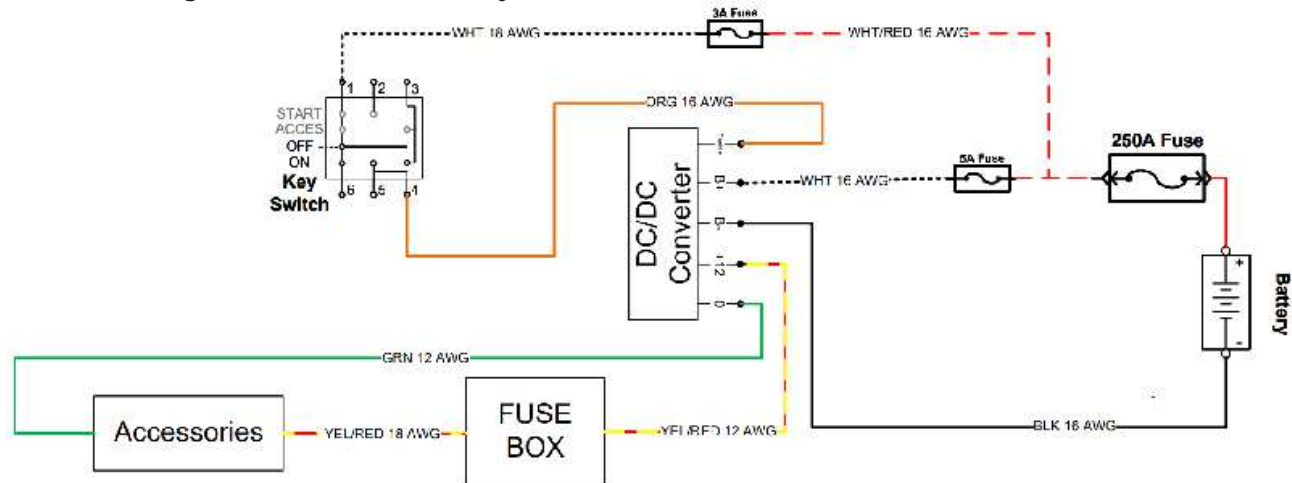

Figure 67. DC/DC Converter Input and Output Terminals Inspection.
- 2.1. Check for the presence of voltage between the positive terminal (**B+**) (White Wire) and the negative terminal (**B-**) (Black Wire) of the DC/DC converter (As shown in Figure 67).
- 2.2. Check for the presence of voltage between the orange wire and the negative terminal (**B-**) (Black Wire) of the DC/DC converter (As shown in Figure 67).
- 3.1. Check for the presence of voltage between the yellow/red wire and the green wire of the DC/DC converter (As shown in Figure 67).